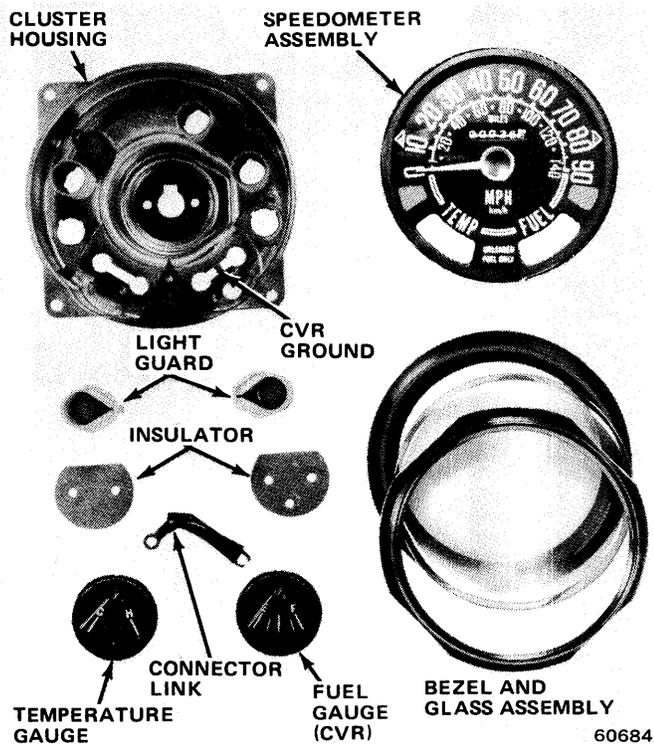

Fig. 3-61 Instrument Cluster Assembly—CJ Models
- (1) Disconnect battery negative cable.
- (2) Separate speedometer cable from speedometer head.
- (3) Remove four attaching nuts and pull cluster from mounting studs.
- (4) Remove gauge wires and cluster lamps and remove cluster assembly.
- (5) After installing cluster, connect battery cable and check all lights and gauges for proper operation.
**NOTE:** The connector link (fig. 3-61) is not serviced. If connector link has to be replaced, manufacture a connector out of 16 gauge (or larger) insulated wire.